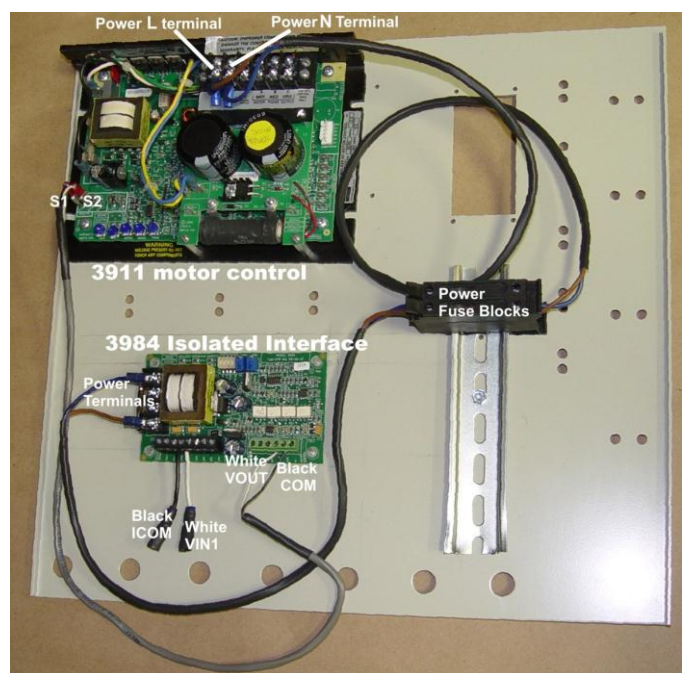

Figure 1 Motor control Panel Layout
- 4.4 Using the supplied Mounting Template for the 3984 Isolated Interface Module, mark for 4 holes. Drill using 4 mm (5/32 inch) drill bit. In a convenient place on the motor control panel. (see Figure 1)
- 4.7 Take these same wires and Plug black S1 into ICOM and white S2 into VIN1 connectors on the 3984 Isolated Interface Module. (see Figure 1)